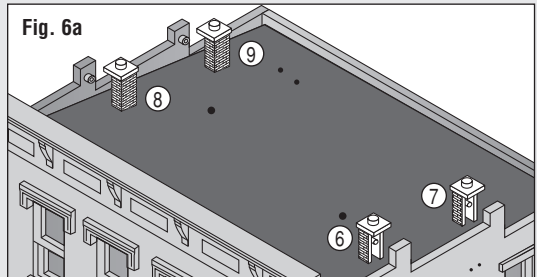

Fig. 6a
- Align and glue Right Front Chimney (6), Right Rear Chimney (7), Left Front Chimney (8), and Left Rear Chimney (9) (Fig. 6a).